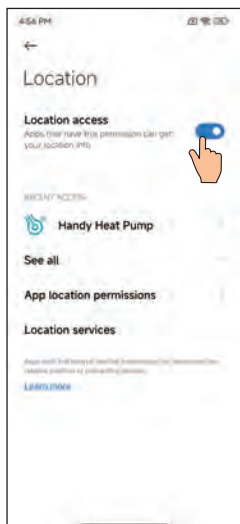

Fig.24 Enabling location Rights
3. Follow the instructions on the page (Fig.23),turn to Location settings (Fig.24) Enable Location Access